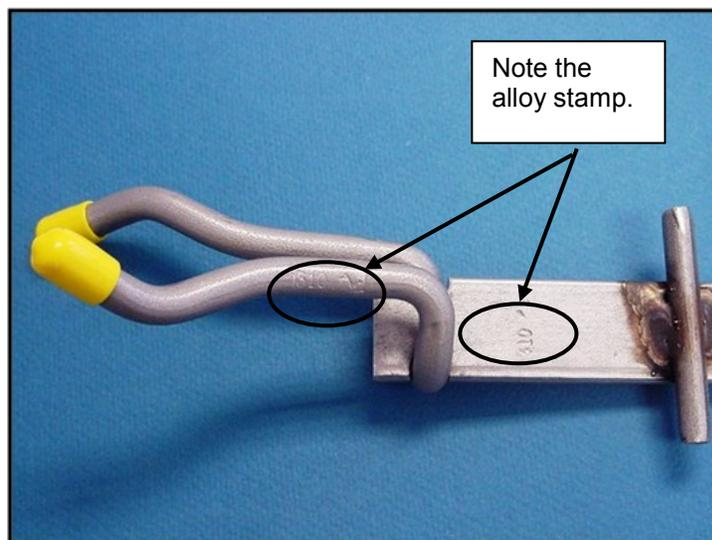

Figure 8. Look for the Alloy Stamp on Each Anchor and Clip
1. Metallic wire anchors are available in several sizes, alloys and designs. Harbison-Walker Cement and Lime Group requires the alloy stamp on every metallic anchor as shown in Figure 8.